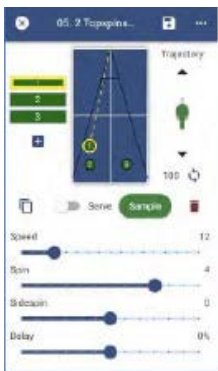

Figure 3-54
2. First, let's set the Placement for Ball 1 a little closer to the net. Do this by dragging Ball 1 so that it looks like Figure 3-54.